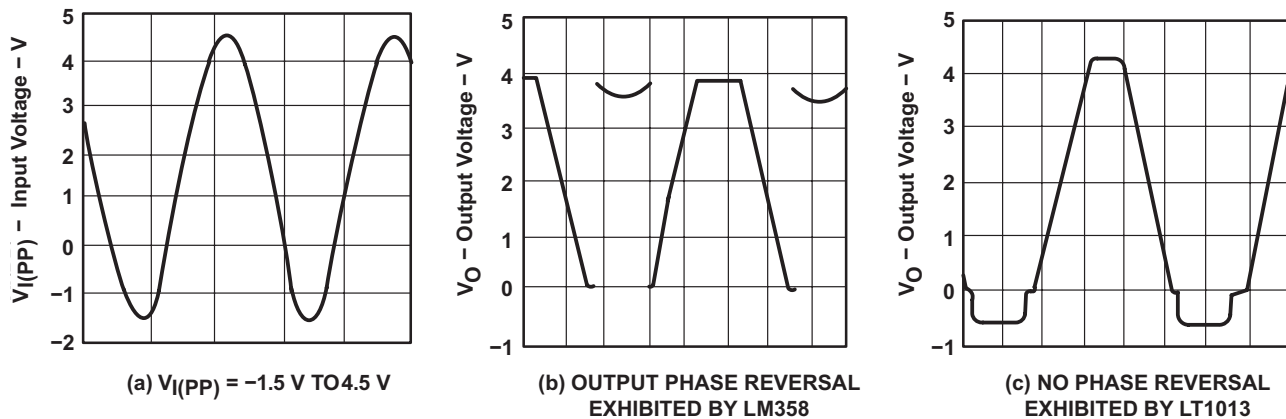

Figure 24. Voltage-Follower Response With Input Exceeding the Negative Common-Mode Input Voltage Range
2. When the input is more than 400 mV below ground (at  $T_A = 25^\circ\text{C}$ ), the input stage of similar operational amplifiers saturates, and phase reversal occurs at the output. This can cause lockup in servo systems. Because of unique phase-reversal protection circuitry (Q21, Q22, Q27, and Q28), the LT1013x outputs do not reverse, even when the inputs are at  $-1.5$  V (see Figure 24).